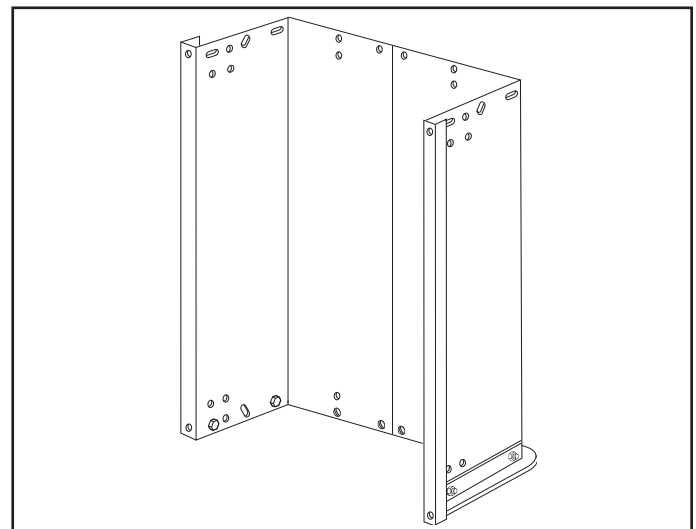

FIGURE 3
6. Carefully flip the cart end for end so that it rests on the tailgate reinforcement bracket. See figure 3.